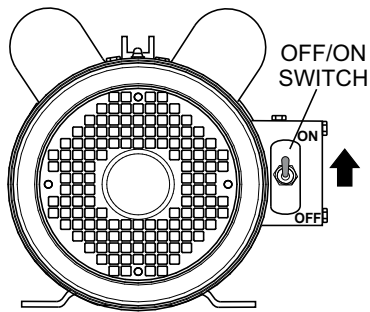

Figure 24. Electric Motor ON/START Switch
2. To start the electric motor (Figure 24), place the **ON/OFF** switch in the **ON** position.